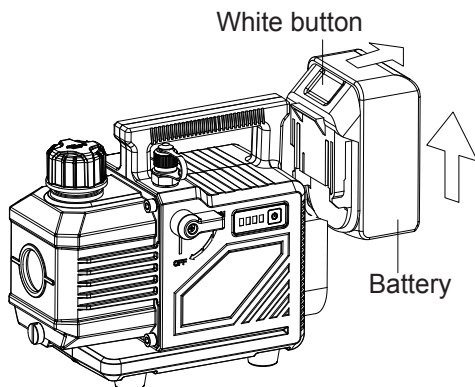

Fig.2
2. To remove the battery, Please press the white button while slide it out from the pump (see Fig. 2).